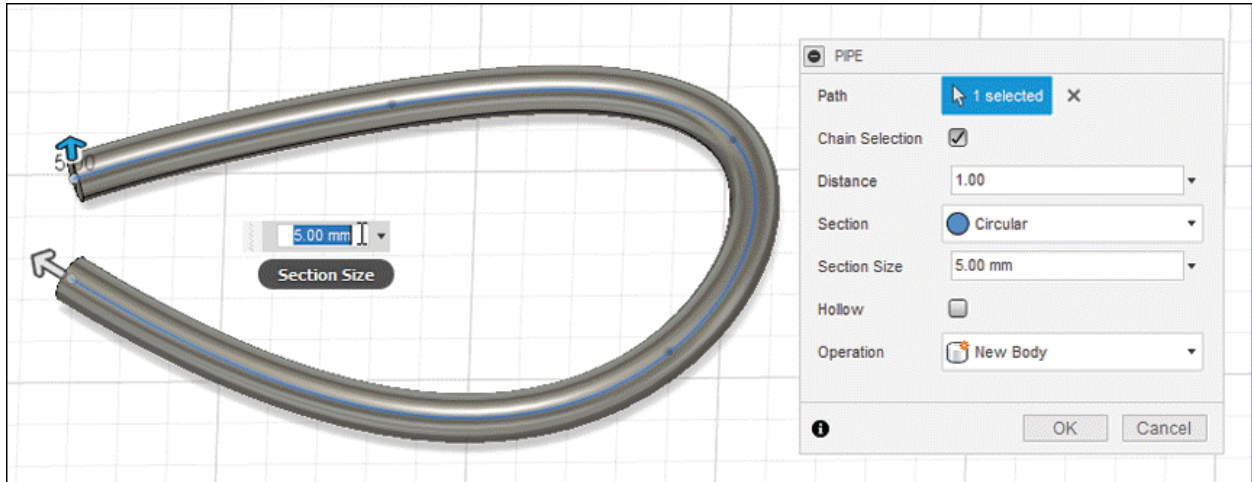

Figure-84. Preview of pipe with PIPE dialog box
- Select the **Hollow** check box to create a hollow pipe. The updated **PIPE** dialog box will be displayed along with the preview of pipe; refer to Figure-84.